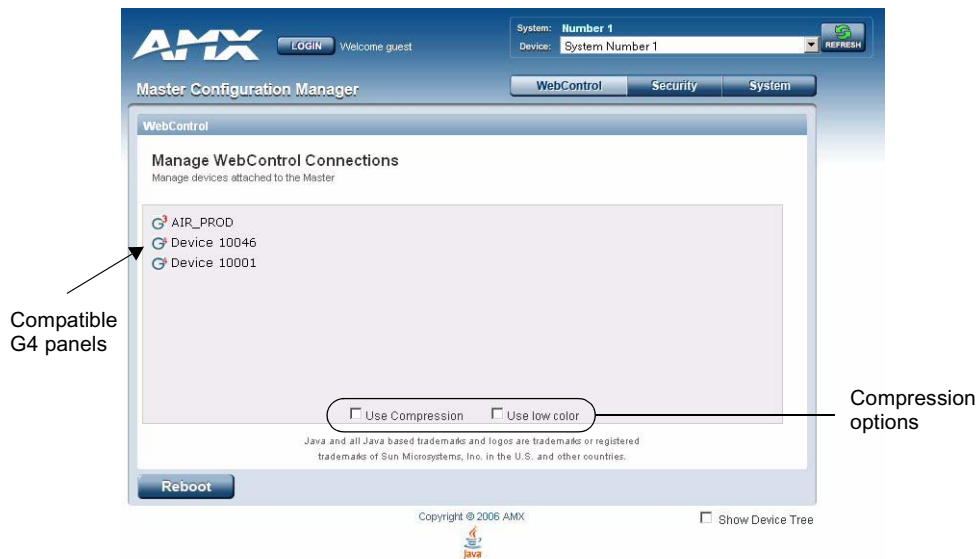

FIG. 28 Manage WebControl Connections page (populated with compatible panels)
5. You can access the Manage WebControl Connections page (FIG. 28) by clicking on the **Manage connections** link (within the Web Control section within the Navigation frame). Once activated, this page displays links to G4 panels running the latest G4 Web Control feature (previously setup and activated on the panel).